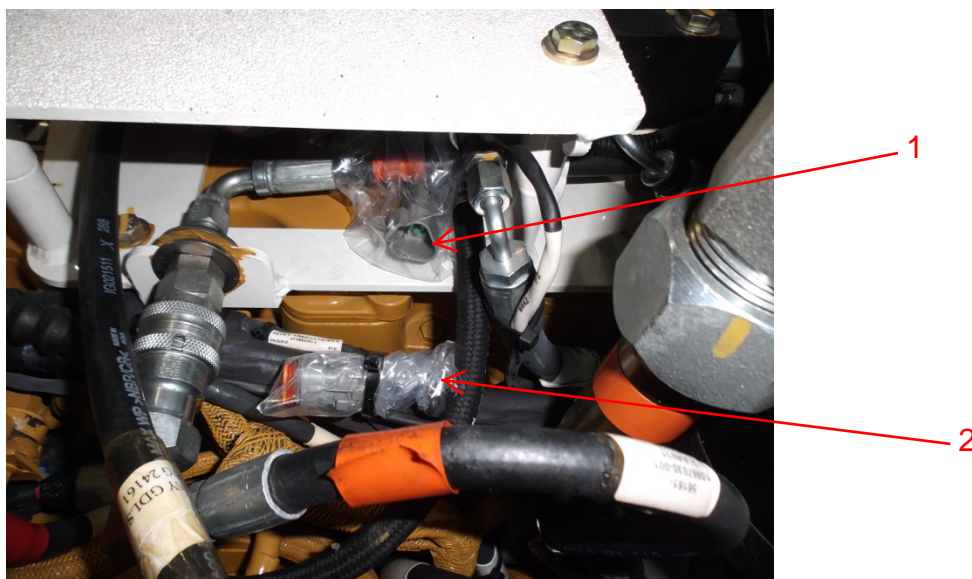

Figure 2. OBOE Controller Connector Disconnected.
3. Bag and secure harness connectors (Figure 2, Items 1 and 2) with zip ties.